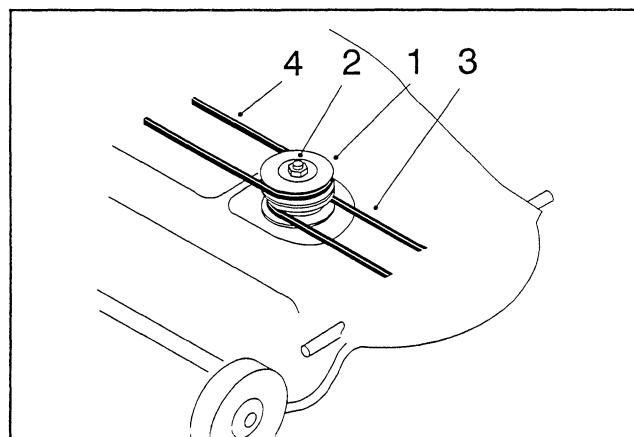

Figure 2
5. Slide the new double pulley onto the pulley shaft and secure it in place with a  $5/8"$  lock washer and nut (Fig. 2). Make sure the word "TOP", stamped into largest pulley, faces up. Tighten the nut to 60–80 ft-lb.
6. Install the blower belt onto the lower pulley, leaving the other end of the blower belt loose (Fig. 2).
7. Install the existing mower belt by rotating it onto the top pulley (Fig. 2).